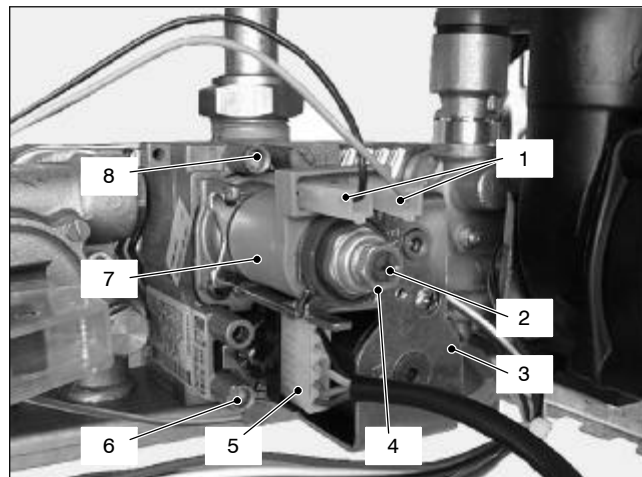

Fig. 46
### 12.2 Nomenclature of the parts (Fig. 46)
- 2 Open the gas valve inlet pressure test point (6 in Fig. 46) at the valve input, connect a suitable pressure gauge and check the gas pressure of the supply network.
- 4 Open the gas valve outlet pressure test point (8 in Fig. 46) and connect the gauge;
- 7 Rotate the maximum gas pressure adjustment (4 in Fig. 46) until you obtain the required pressure (by rotating clockwise the pressure increases).
- 8 Disconnect one of the two connectors (1 in Fig. 46) or, alternatively, remove the service panel as explained in the section 2.3 of this manual and set the dip–switch selector 1 (see section 10.5) to the OFF position.
- 9 Rotate the minimum gas pressure adjustment (2 in Fig. 46) until you obtain the required pressure (by rotating clockwise the pressure increases).